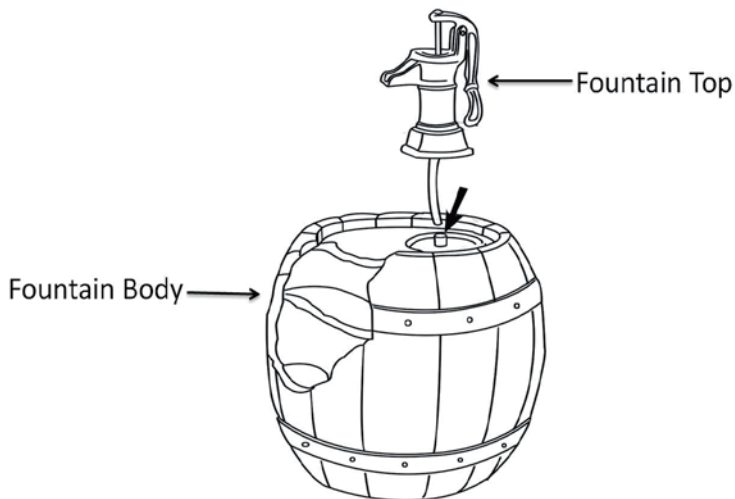

Fig.1
3. Align and insert the wedge on the fountain top with slot on the fountain body, make sure the water outlet facing out the water flow area of the fountain body (Fig. 1)